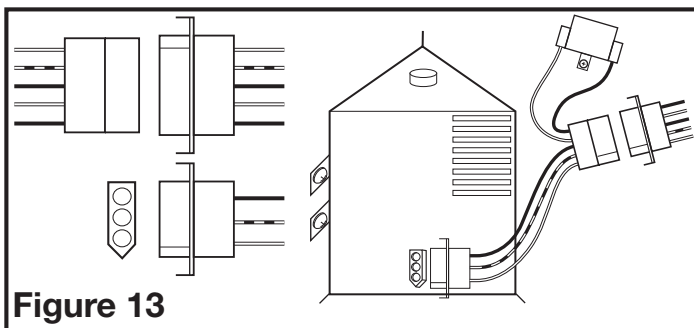

Figure 13
- 3c. **AKLS6H MODELS:** Connect the wire harness by plugging the 3 pin quick connect end into the receptacle located on the side of the wire compartment cover. Confirm that the 5 pin quick connect end is plugged into the receptacle from the blower assembly. These cords will only fit one way into the receptacles (**Figure 13**).